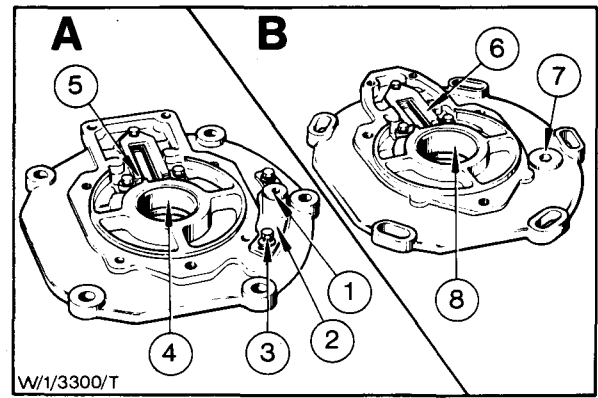

Fig. 63 - Front Mounting Flanges
2. Fit the governor ramp to the front mounting flange. Use the original shim pack. Refer to Fig. 63.